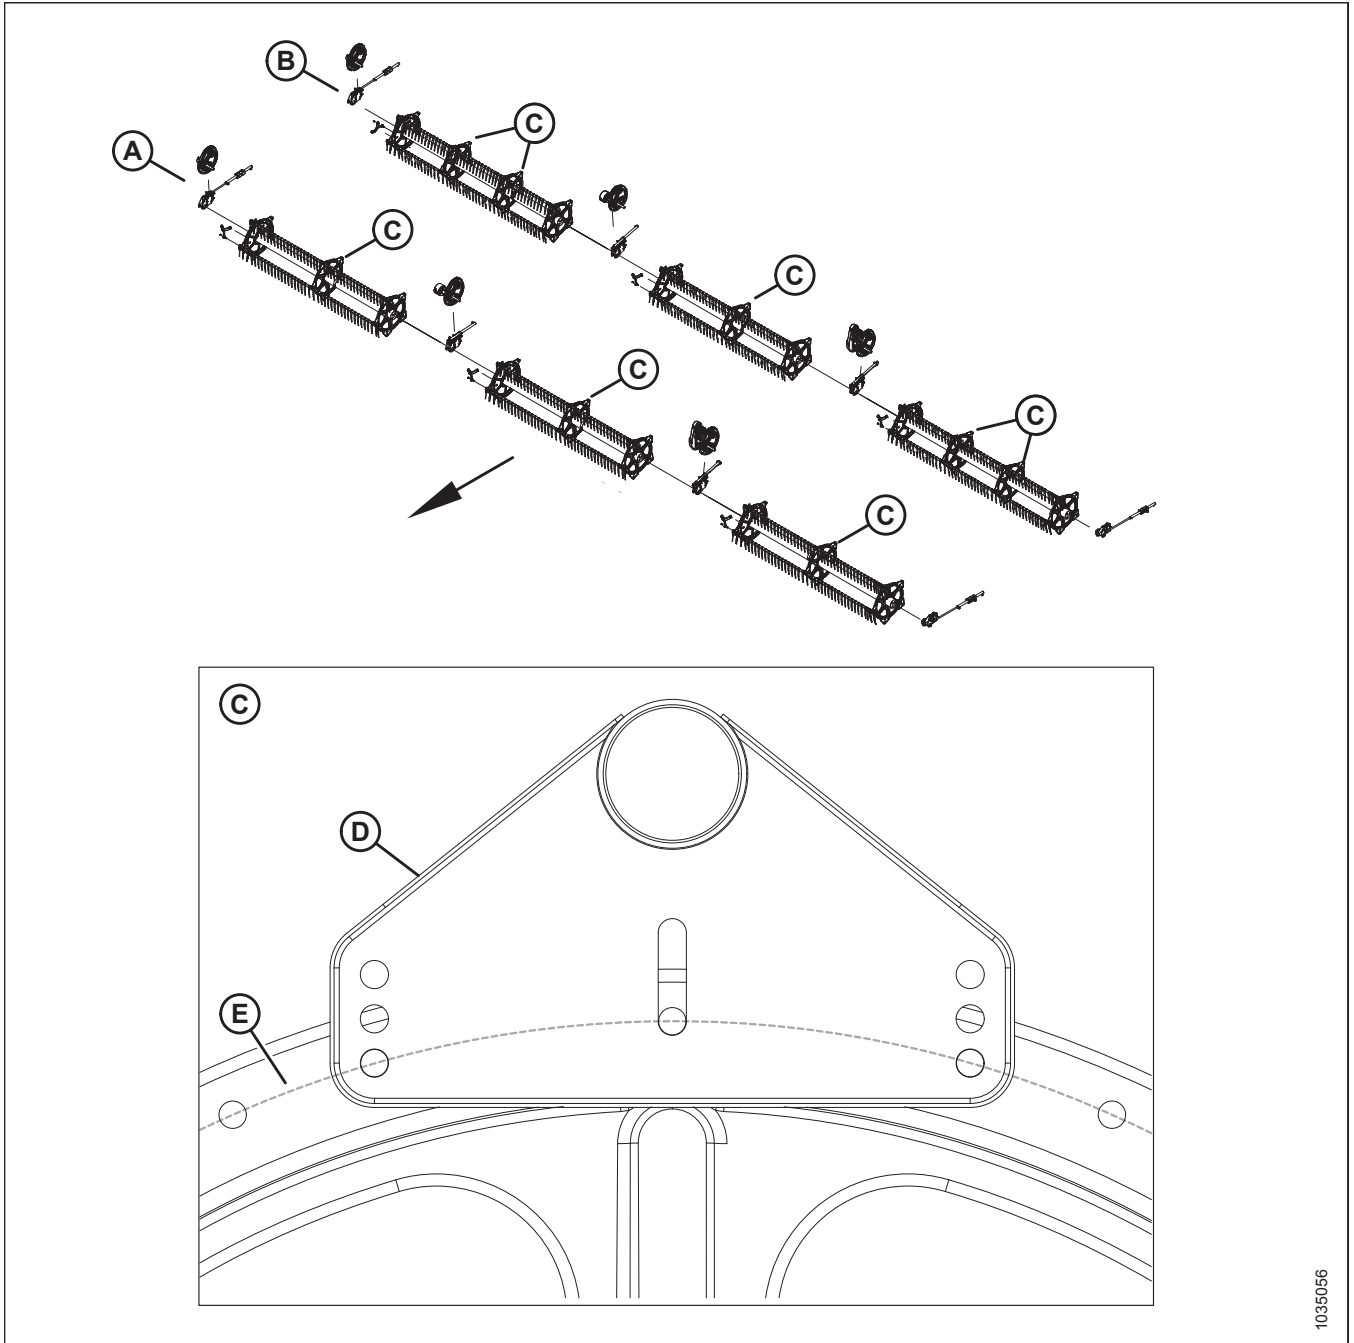

Figure 3.54: Mid-Span Disc Tine Tube Position for FD240 Triple Reel, FD245 and FD250
- **FD240 Triple Reel, FD245 and FD250:** Figure 3.54, page 41
9. Attach tine tube support(s) (A) to disc(s) using M10 x 16 mm hex flange bolts (B) with M10 lock nuts as shown. Do **NOT** tighten hardware until all bolts on all discs have been installed.